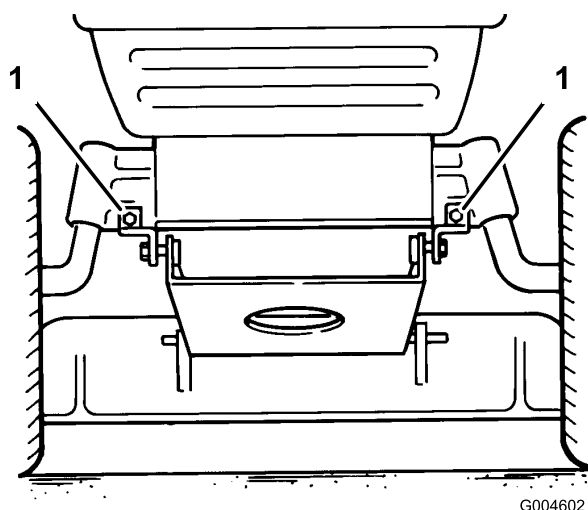

Figure 41
14. Pull the 2 mower pivot mount brackets down from the front axle (Figure 41).
11. Install the mower pivot mount brackets to the front axle with bolts and locknuts (Figure 41).